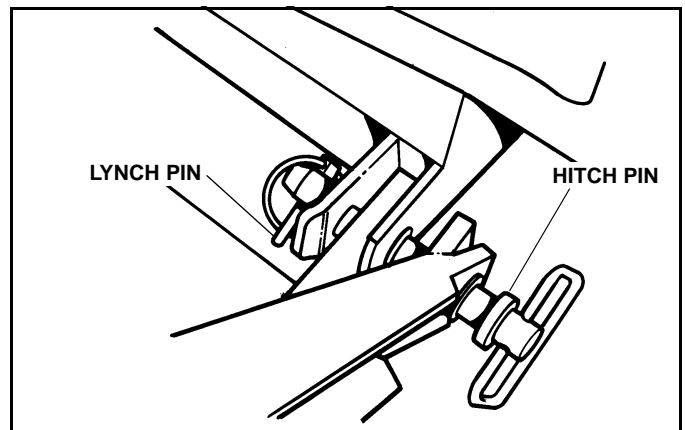

Figure 1-8
10. Remove the Lynch Pins from the two lower Hitch Pins. Using the Rocker Switch will allow the rear of the A-Frame to be raised or lowered to take pressure off the two lower Hitch Pins to allow easier removal of the Hitch Pins. (See Figure 1-8)